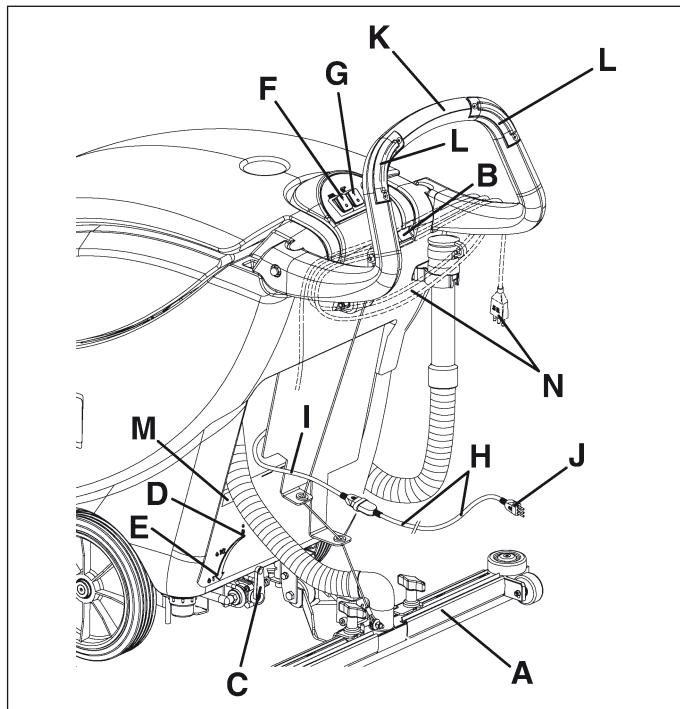

Figure 8
Connect the power supply cable (I) to the extension (H, Fig. 8) supplied. Connect the extension plug (J) to the electrical mains.
Before connecting the machine to the electrical mains, make sure that the frequency and voltage shown in the serial number plate/technical data (M, Fig. 8) match the mains voltage.
3. Lower the squeegee (A, Fig. 8) by pushing the lever (B) downwards.
4. Turn the solution flow control lever (C, Fig. 8) to one of the following positions, according to the type of cleaning to be carried out:
- **ECO system:** When the lever (C, Fig. 8) is in the "ECO" position (D), the machine works in a special condition of programmed water "economy" usage; as the water flow is set and constant, the machine can work with a cleaning time of 70-80 minutes [0.08 gal/min (0.3 liters/min)].
- **Variable system:** When the lever is turned to the left (variable flow), it is possible to increase the capacity up to 0.26 gal/min (1 liter/min) (E, Fig. 8).
5. Turn the switches (F and G, Fig. 8) to the "I" position.
6. While keeping both hands on the handlebar (K, Fig. 8), start the machine by pressing one or both the activation switches (L).
7. Release the switches (L, Fig. 8).
8. Turn the switches (F and G, Fig. 8) to the "0" position.
9. Disconnect the power supply cable plug (J) from the electrical mains. If necessary, roll up the power supply cable (H, Fig. 8) on the handlebar into position (N).
10. Lift the squeegee by pushing the lever (B, Fig. 8) completely upwards.